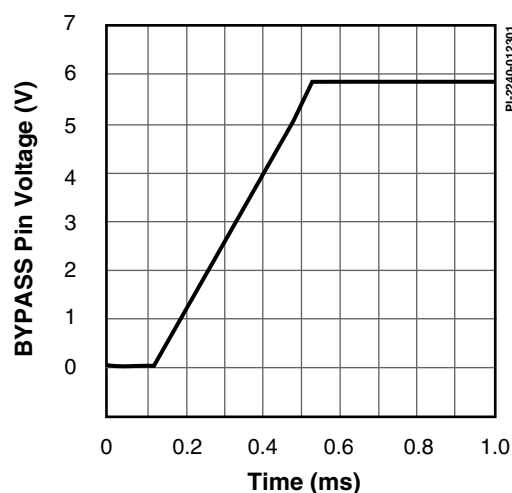

Figure 15. BYPASS Pin Start-up Waveform.
- D. See Typical Performance Characteristics section Figure 15 for BYPASS pin start-up charging waveform.